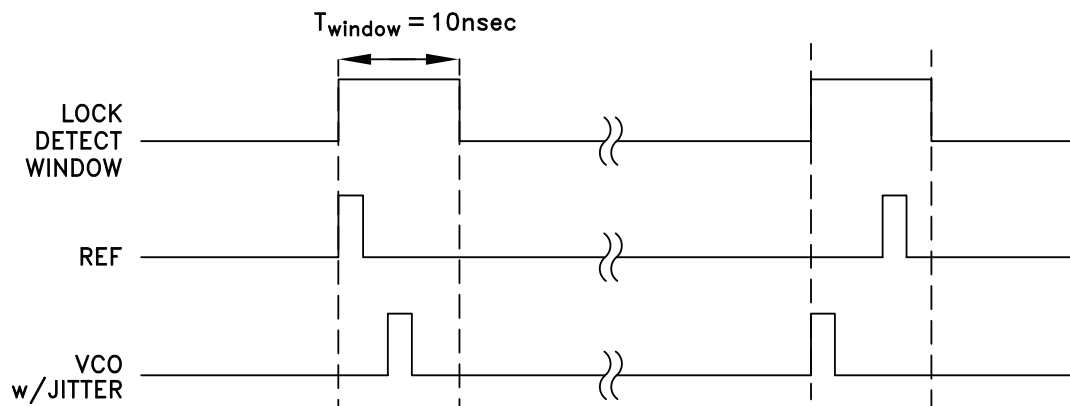

Figure 11. Normal Lock Detect Window
The Lock Detect circuit in the HMC700LP4(E) places a one shot window around the reference. The one shot window may be generated by either an analog one shot circuit or a digital one shot based upon an internal ring oscillator. Clearing *ringosc_oneshot_sel* (Table 14) will result in a fixed analog based nominal 10 nsec window, as shown in Figure 11. Setting *ringosc_oneshot_sel* will result in a variable length widow based upon a high frequency internal ring oscillator. The ring oscillator frequency is controlled by *ringosc_cfg*. The resulting lock detect window period is then generated by the number of ring oscillator periods defined in *oneshot_duration*, both in (Table 14).
The Lock Detect Flag is output to LD_SDO pin according to *pdf_LD_opEn* (Table 18) or to the internal SPI read only register if *locked* = 1 (Table 21). Setting *pdf_LD_opEn* will display the Lock Detect Flag on LD_SDO except when a serial port read is requested, in which case the pin reverts temporarily to the Serial Data Out pin, and returns to the Lock Detect Flag after the read is completed. Timing of the Lock Detect and Serial Data Out functions are shown in Figure 11.